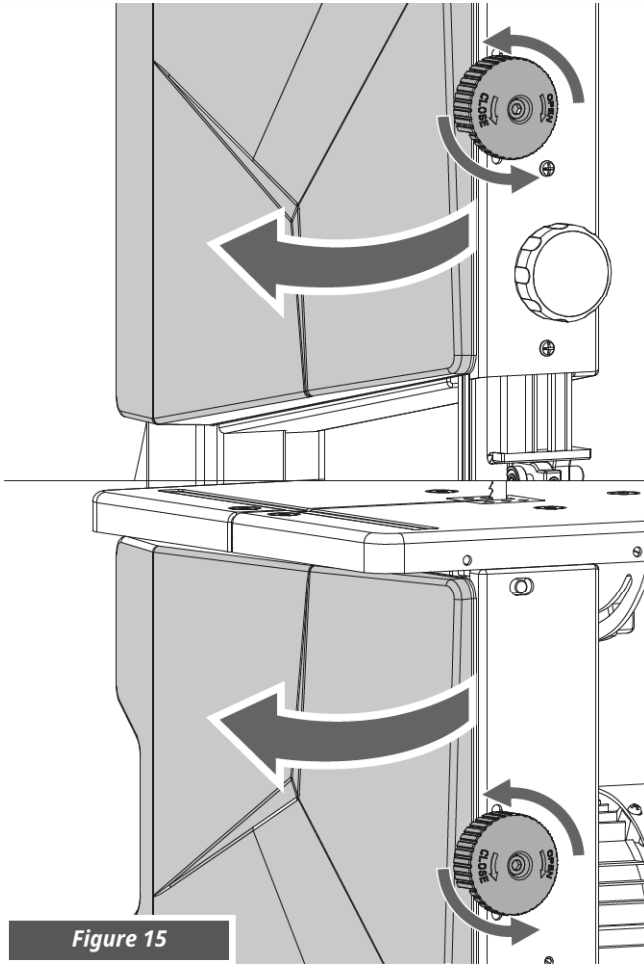

Figure 15
2. Open both housing doors. (See Figure 15)